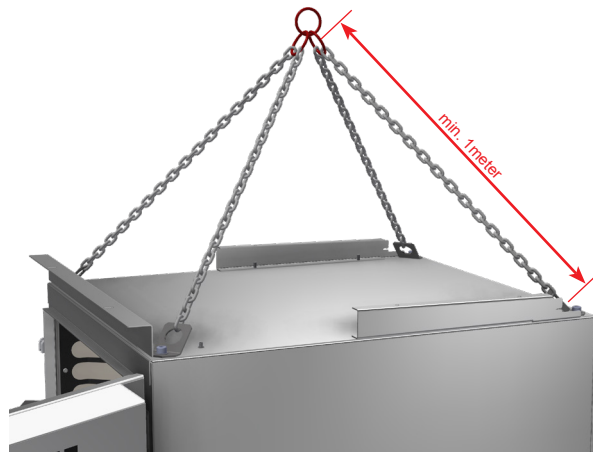

Figure 3.6 Cabinet lifting
- Fix chains or straps (minimum length 1 meter) to all lifting lugs (see *Figure 3.6*), securely lift and move system to the desired position.